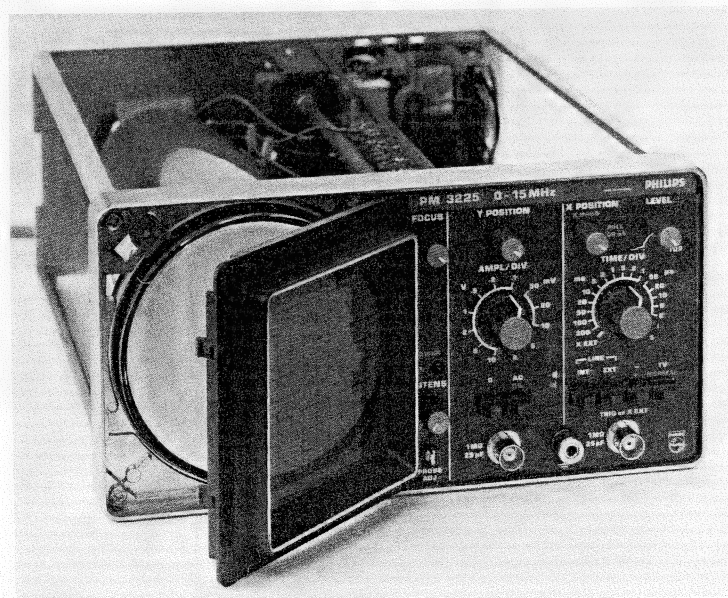

Fig. 2.5. Removing bezel and graticule
- to extract bezel, swivel out by applying slight pressure to the left-hand edge (see Fig. 2.5.)